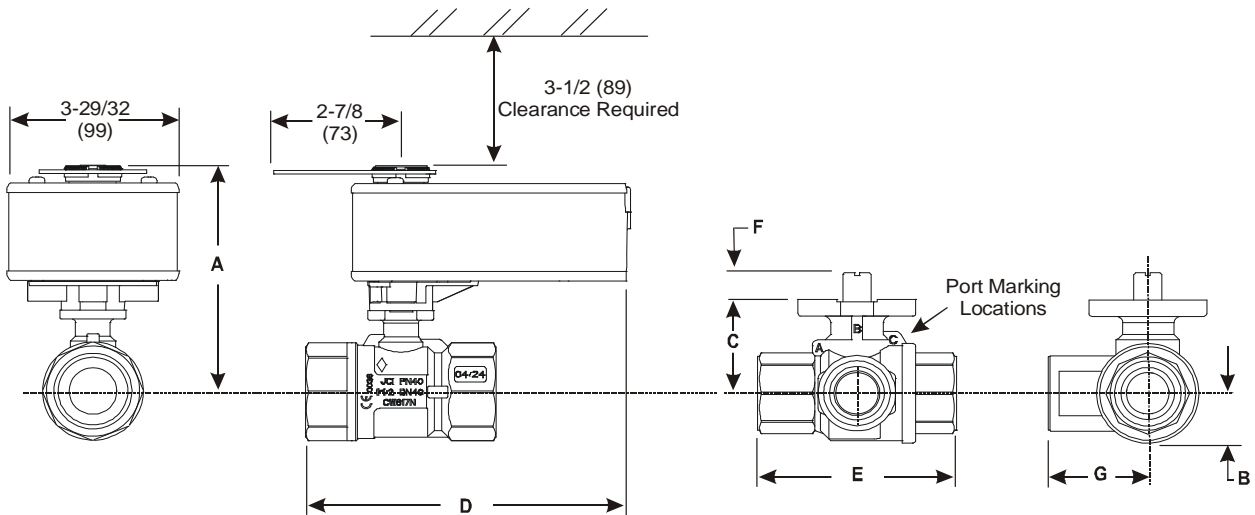

Figure 2: Spring Return VA9208 Actuated VG1241, VG1245, VG1841, and VG1845 Series Ball Valve Dimensions, in. (mm)
See Figure 2 and Table 1 for valve actuator dimensions.
1. Port A must always be connected to the coil (Figure 2).